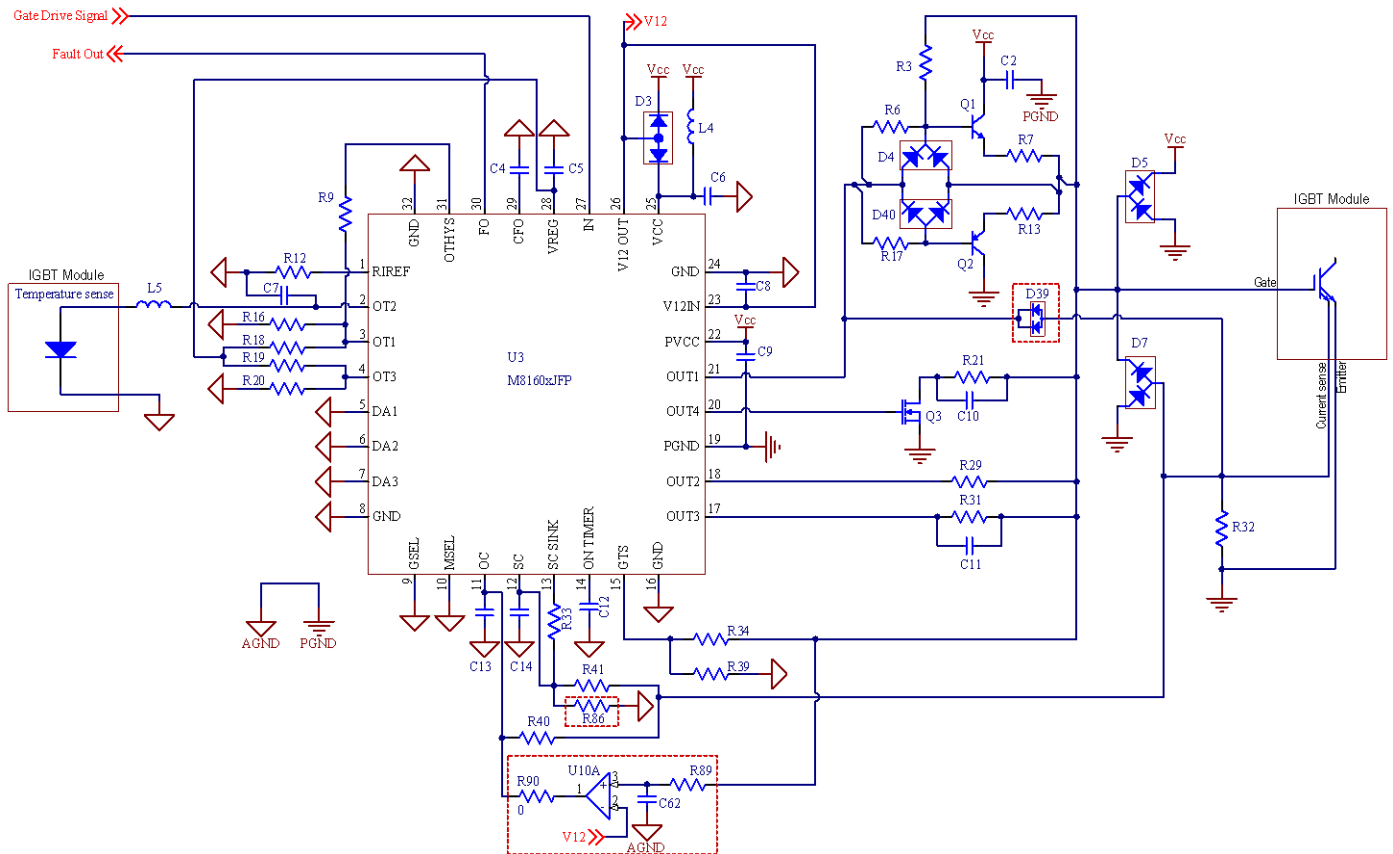

Figure 18 Outline of Drive and Protection circuit
The outline of the gate drive and protection circuits is shown in Figure 18. Please refer to the schematic "PEV-M2653 Schematic diagram" attached to this document for details of these circuits.
The J1-series IGBT module has an on-chip current sensor whose output is proportional to the collector current. The on-chip current sensor output is converted into a sense voltage by a sense resistor (R32 in Figure 18), and the sense voltage is fed to the SC and OC pin of the gate driver IC (M8160xJFP).
When detecting a short-circuit (SC), the OUT1 pin turns to a high-impedance state, and the IGBT gate is directly turned off by OUT2 on Pin 18. A soft-shutdown of the IGBT gate can be set by setting the resistance between the IGBT gate and OUT2 pin (R29 in Figure 18) larger than gate resistance for normal turn-off (R13 in Figure 18).
When detecting over-current (OC), OUT1 pin turns to a high-impedance state, and the IGBT gate is directly turned off by the OUT3 on Pin 17. A soft-shutdown of the IGBT gate can be set by setting the resistance between the IGBT gate and OUT3 pin (R31 in Figure 18) larger than gate resistance for normal turn-off (R13 in Figure 18).
The gate drive IC M8160xJFP has a function to divide the sense voltage fed into the short-circuit (SC) protection circuit during low level output duration ($t_{ONTIMER}$). By dividing the sense voltage with R41 and R33 connected to M8160xJFP Pin 13 during $t_{ONTIMER}$, a malfunction of the short-circuit (SC) protection can be prevented. Pin 13 (SCSINK) turns into a high-impedance state after $t_{ONTIMER}$, and non-divided sense voltage is fed into the short-circuit (SC) protection circuit, as seen in Figure 4. R86 in Figure 18 is an optional part used to increase short-circuit (SC) trip level after $t_{ONTIMER}$.
GSEL=Low, MSEL=Low and [DA3, DA2, DA1]=010b are set by default as shown in Figure 18. GSEL, MSEL and [DA3, DA2, DA1] are selectable by 0Ω resistor. Please refer to the circuit diagram attached to the application note for further information.